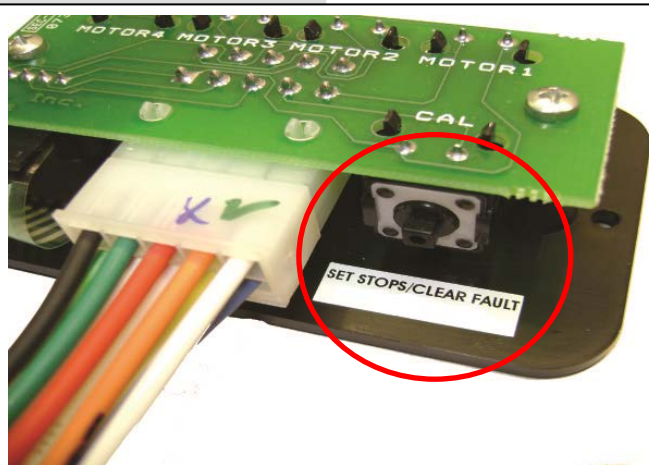

Figure 3 Set Stops/Clear Fault Button (Back bottom of touch pad shown)
- After the problem has been repaired, **MAJOR** faults must be cleared by pushing and releasing the **SET STOPS/CLEAR FAULTS** button located the back of the bunk lift touchpad (**FIGURE 3, page 2**).
3. Press and hold the **SET STOPS/CLEAR FAULTS** button (**FIGURE 3, page 2**) on the back for the touchpad for five (5) seconds. Both **RED** and **GREEN** LED's will be on solid while this button is pressed. After five (5) seconds, the **GREEN** LED will begin flashing and the **RED** LED will remain lit.